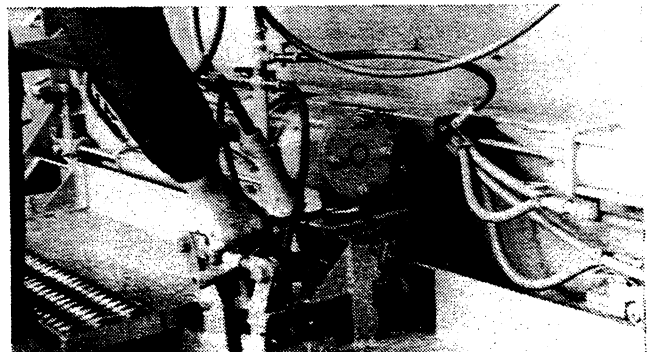

Figure 4-15
- A. Loosen nut in slot under vibration motor as shown in Figure 4-15.